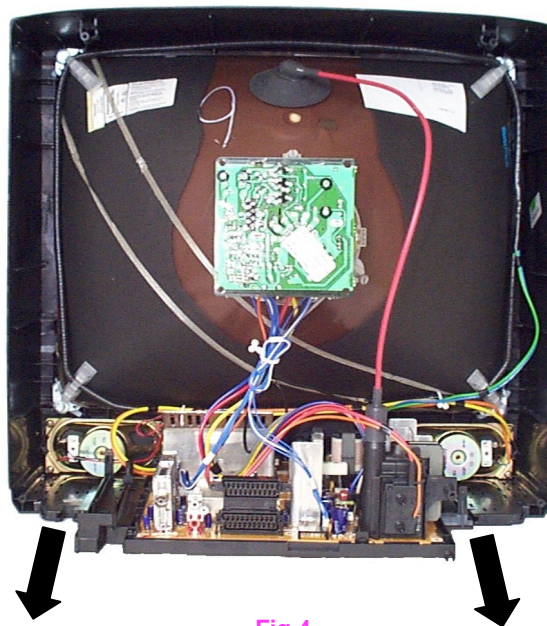

Fig.4.
2. Hold and lift the rear of the E-PCB chassis and gently pull the chassis toward you, as shown in Fig.4.